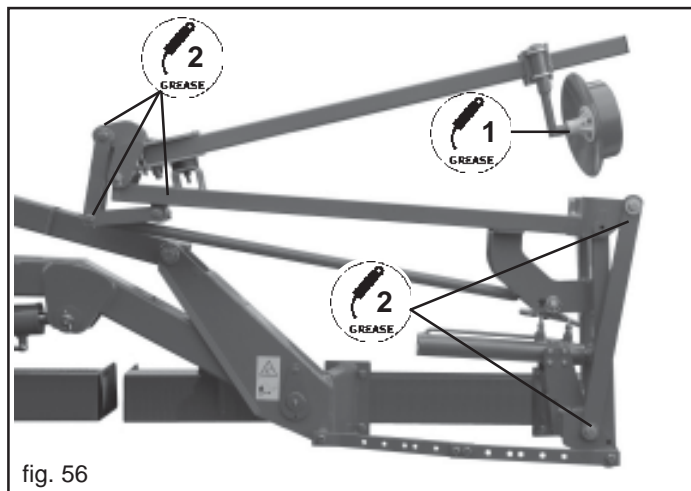

fig. 56
- Grease the row-marker disc pin (1, Fig. 56).
- Grease the row-marker arm pin (2, Fig. 56).